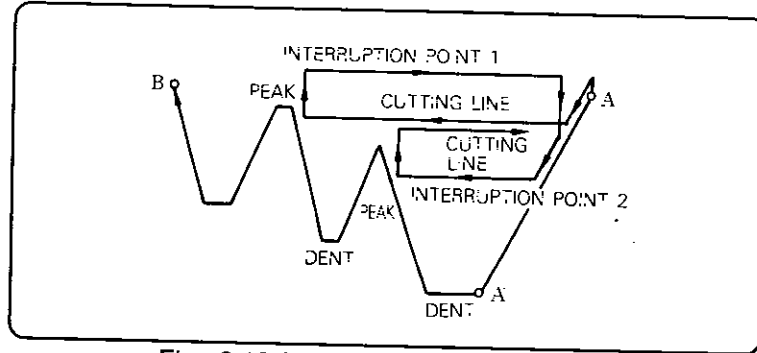

Fig. 2.13.20 Cutting Complex Dents
- If the dent is minor, there will be a single interruption point, but if there are dents and peaks inside the dent as shown in Fig. 2.13.20, there will be more interruption points after the first interruption of the cutting line.